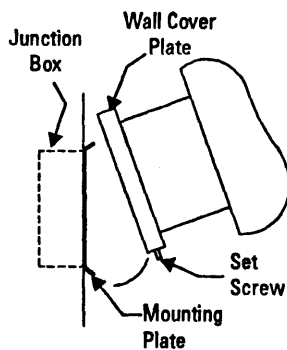

Fig. 3b
3. Attach cylinder housing by hooking wall cover plate over top section of mounting plate as shown in Fig. 3b.